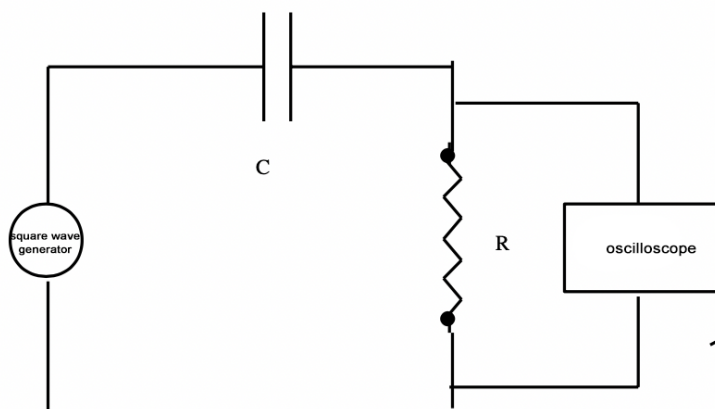

Figure 2: An RC circuit driven by a square-wave generator. R = potentiometer, C = capacitor.
2. Set up the circuit shown below in Fig. 2. Be sure that the (black) ground lead from the oscilloscope is connected to the same side of the potentiometer as the (black) ground lead from the signal generator.
1. Put the blue and green capacitors, one at a time, in the circuit shown in Fig. 2, measure and record their capacitance by the time-constant method described above. You need only make one measurement of the time constant for each capacitor (keep the potentiometer dial set to 1.00). (The nominal value of the green capacitor is $0.47\mu\text{F}$. If your measurement of its capacitance is wildly different from this you will want to re-check your measurement.)